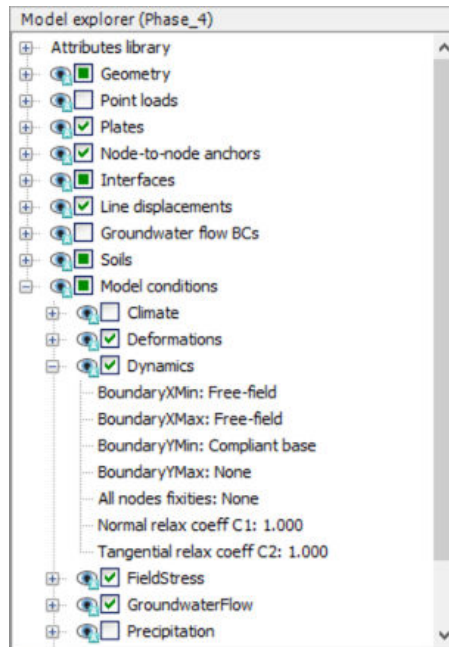

Figure 222: Boundary conditions for **dynamics calculations** (Phase_4)
8. Expand the **Dynamics** subtree. Set the **BoundaryXMin** and **BoundaryXMax** to **Free-field**. Set the **BoundaryYMin** to **Compliant base** as shown in Figure 222 (on page 252).